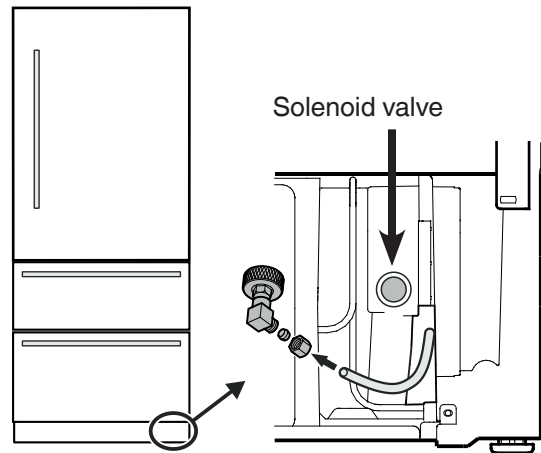

Figure 19
5. Remove the cover from the solenoid valve (**Figure 19**).
6. Connect the water line to the adapter in the respective configuration, depending on the type of water line used. Figure 19 shows the configuration with a copper line as an example.